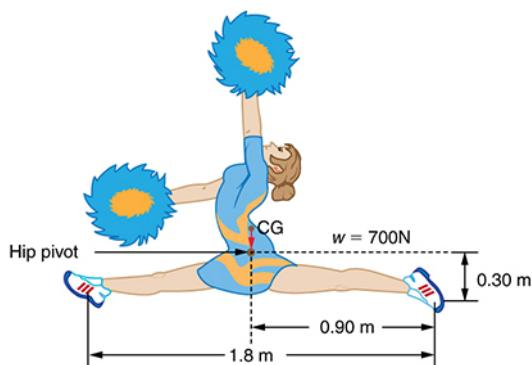

FIGURE 9.34 An athlete performs full split. The center of gravity and the various distances from it are shown.
- 16.** An athlete is attempting to perform splits. From the information given in Figure 9.34, calculate the magnitude and direction of the force exerted on each foot by the floor.